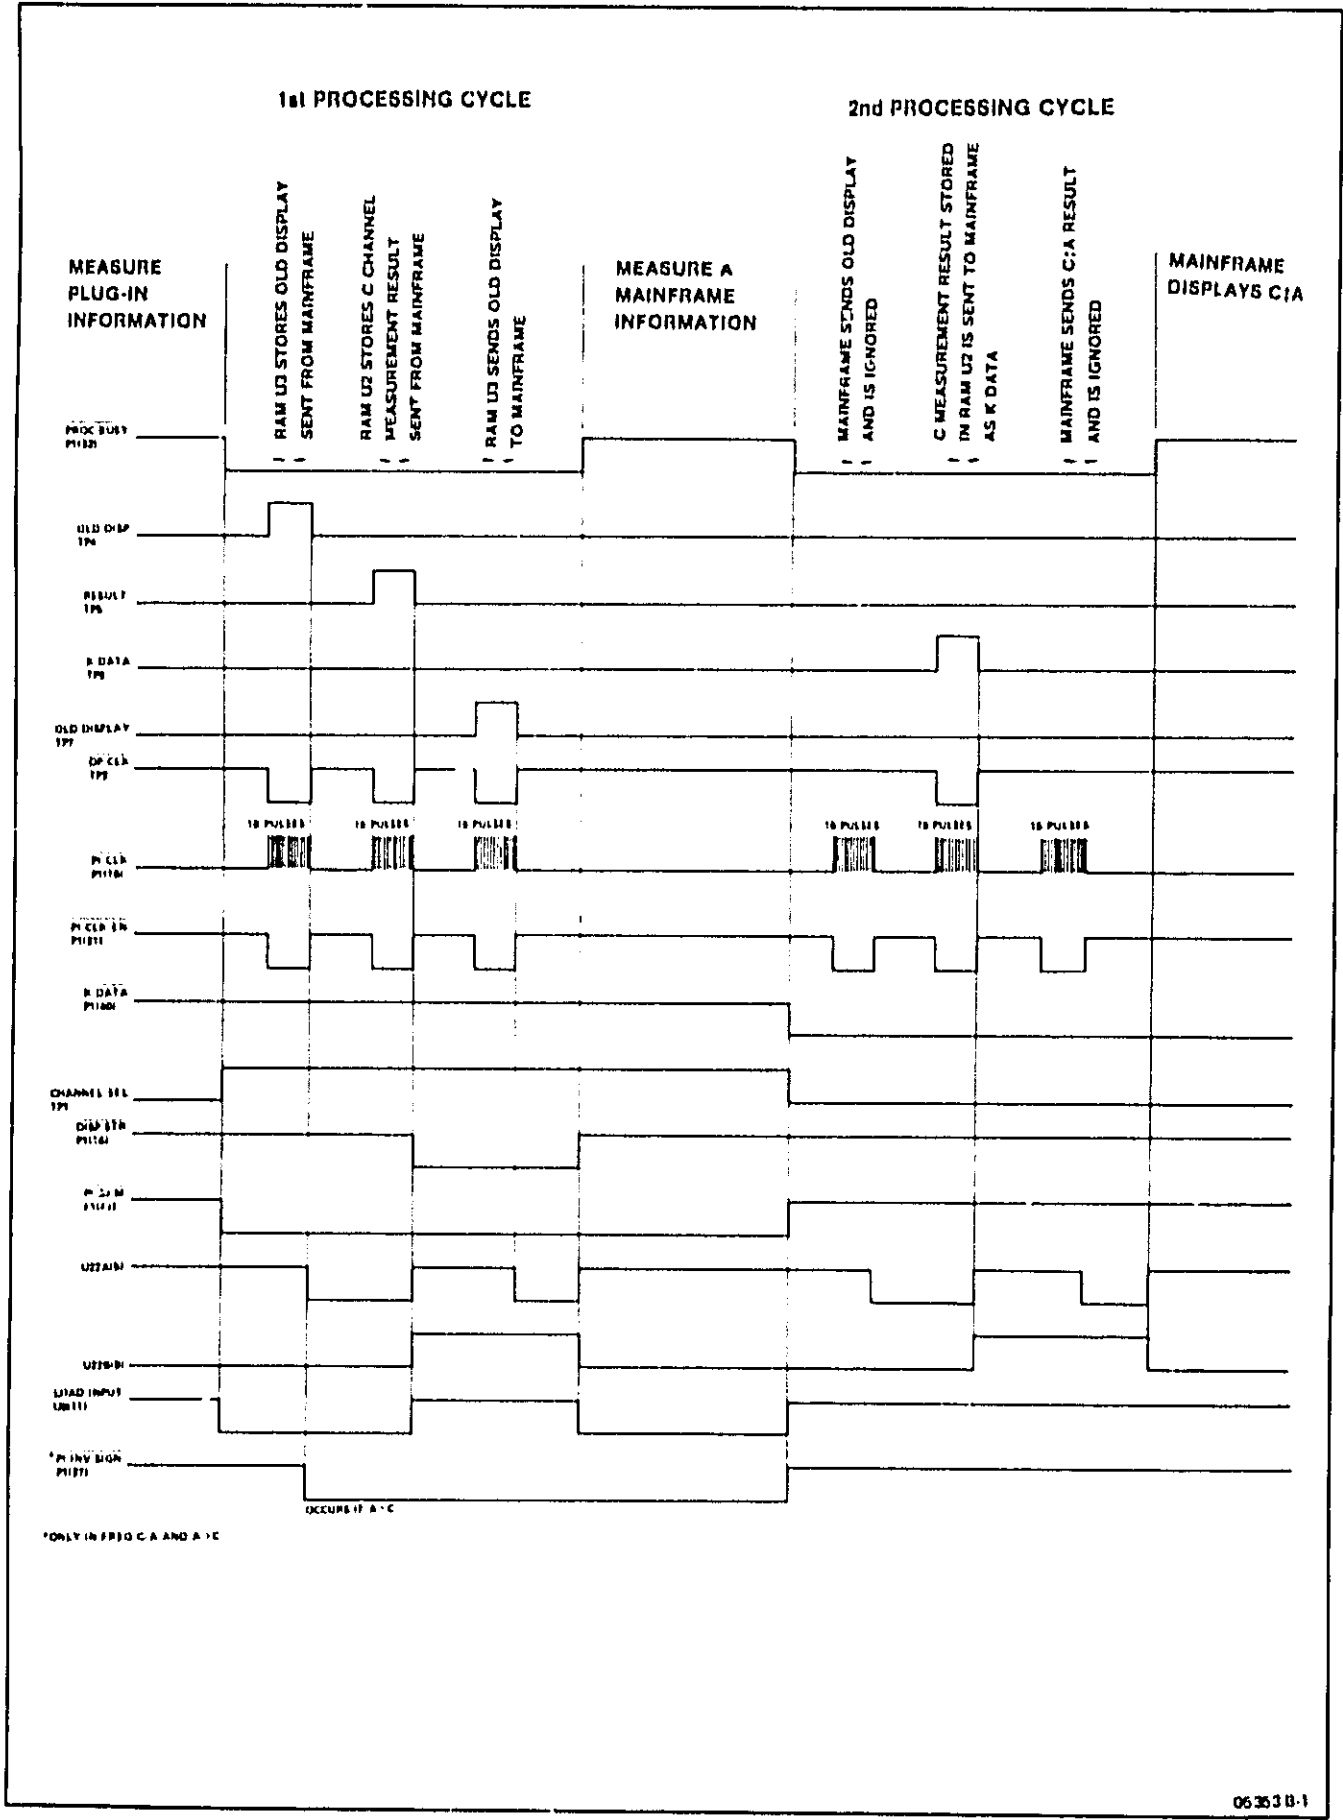

Figure 4-3. Frequency C+A Operating Cycle Timing Diagram
4-26. If $\overline{SEL A \cdot B}$ at P1(18) is low, the plug-in is selected to make a measurement; and if high the mainframe is selected. The overall timing diagram for frequency C-A is shown in Figure 4-3.